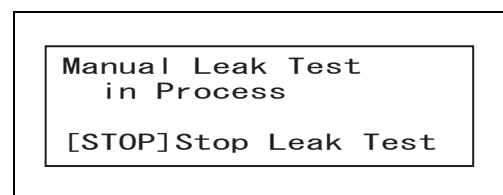

Figure 5.19
- 5 Confirm that the indicator as shown in Figure 5.19 is displayed on the LCD monitor. Immerse the endoscope in a basin that contains clean water.